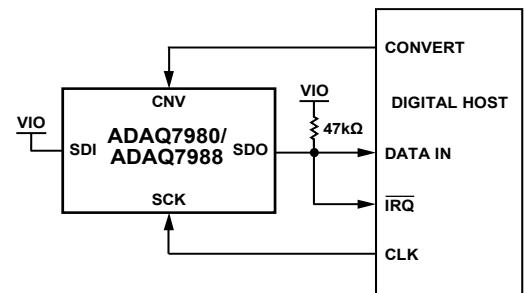
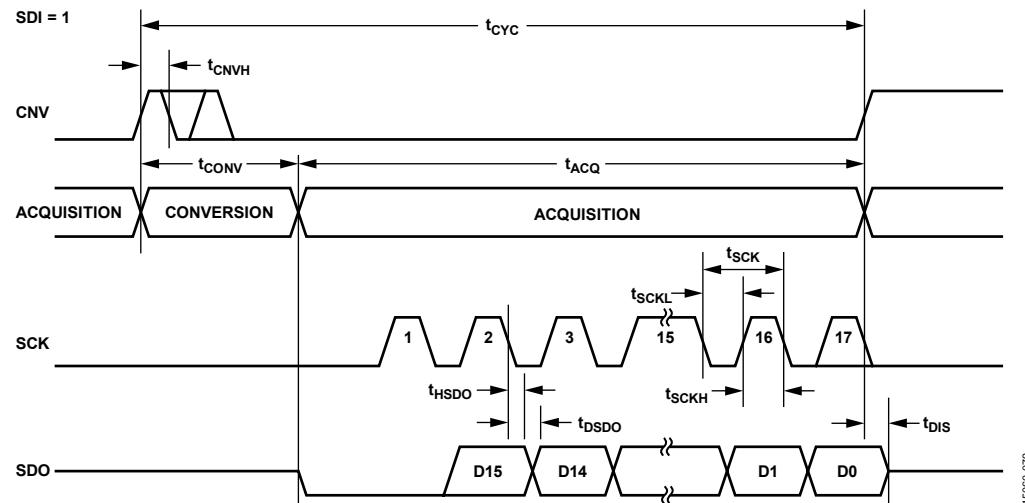
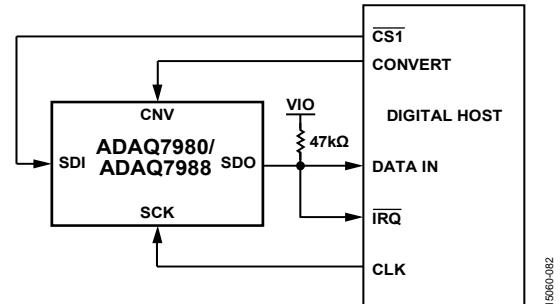
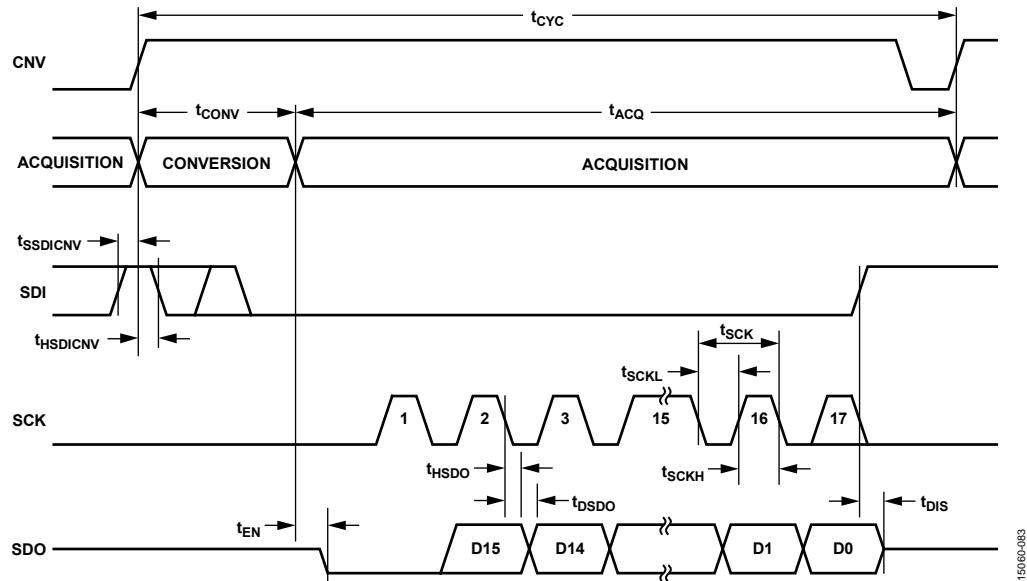

Figure 73. 3-Wire \overline{CS} Mode with the Busy Indicator Connection Diagram
Figure 74. 3-Wire \overline{CS} Mode with the Busy Indicator Serial Interface Timing (SDI = 1, High)
Figure 77. 4-Wire CS Mode with the Busy Indicator Connection Diagram
Figure 78. 4-Wire CS Mode with the Busy Indicator Serial Interface Timing
- In $\overline{\text{CS}}$ mode if CNV or SDI is low when the ADC conversion ends (see Figure 74 and Figure 78).
Figure 73 shows the connection diagram, and Figure 74 shows the corresponding timing.
Figure 77 shows the connection diagram, and Figure 78 shows the corresponding timing.